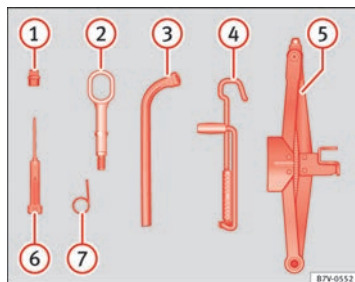

Fig. 200 Components of the onboard tool kit.
**The individual elements of the on-board toolkit** ⇒ fig. 200
- ① Adapter for anti-theft bolt. SEAT recommend you carry the wheel bolt adapter in the vehicle tool kit at all times. The **code number** of the anti-theft wheel bolt is stamped on the front of the adapter. In case it is lost, another adapter can be ordered using this number. Note the anti-theft bolt code for the wheels and keep it in a place other than the vehicle.
- ② Towing eye, removable.
- ③ Wheel spanner.
- ④ Jack. Fold the jack before returning it to the toolkit.
- ⑤ Jack. Before storing the jack in the toolkit, fold its hook.
- ⑥ Screwdriver with hexagon socket in the handle for screwing and unscrewing the wheel bolts once loosened. The screwdriver bit is inter-